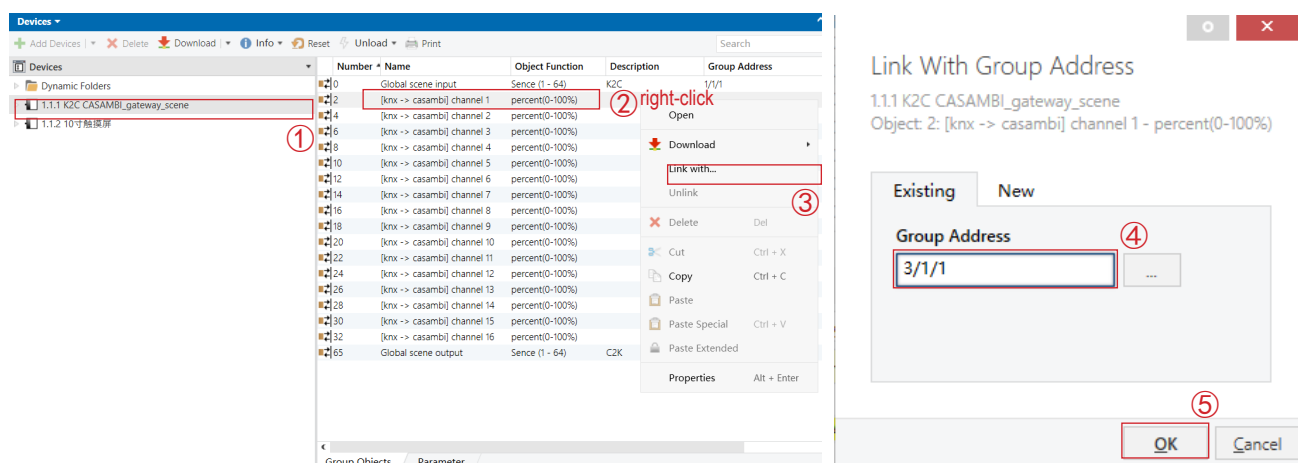

Figure 13
- For KNX -->CASAMBI scene dimming function: Assign group addresses for Group objects (“knx-->casambi channel x”, “percentage(0-100%)”), as in Figure 13.